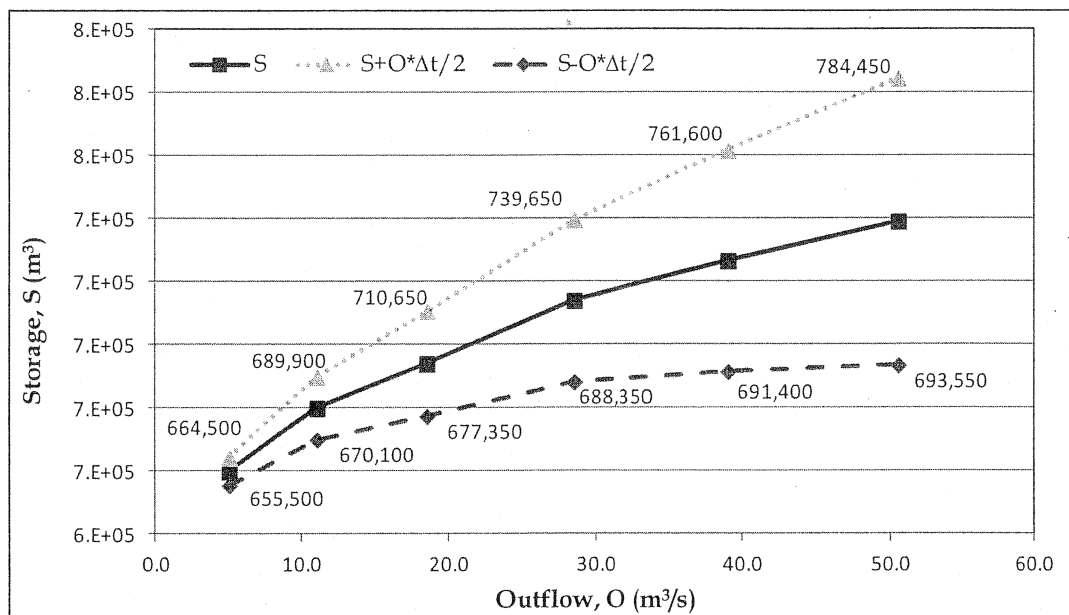

Figure Q5: Reservoir storage characteristic curves
- (ii) Storage-outflow relationship curves and related numerical-data developed for a multipurpose reservoir are given in Figure Q5 and Table Q5 respectively where;
- (a) Explain the development procedure of Figure Q5 illustrating related equations.
(b) Briefly discuss the use of Figure Q5 in relation to reservoir routing.